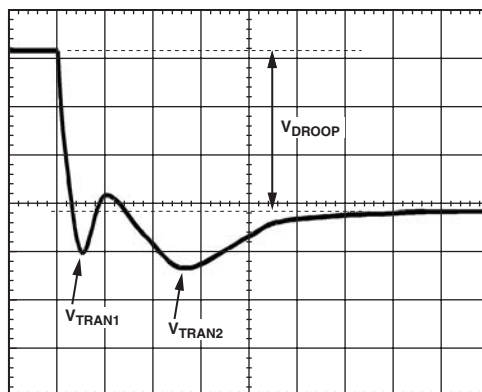
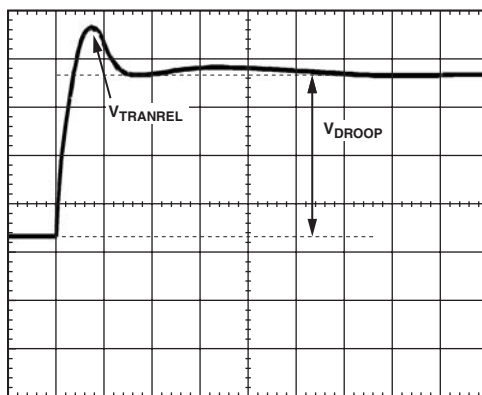

Figure 9. Transient Setting Waveform
Figure 10. Transient Setting Waveform
19. With dynamic load still set at maximum step size, expand scope time scale to see 2 μs/div to 5 μs/div. You will see a waveform that may have two overshoots and one minor undershoot (see Figure 9). Here, V_{DROOP} is the final desired value.
21. For load release (see Figure 10), if $V_{TRANREL}$ is larger than V_{TRAN1} (see Figure 9), you do not have enough output capacitance. You will either need more capacitance or to make the inductor values smaller (if you change inductors, you need to start the design over using the spreadsheet and this tuning procedure).